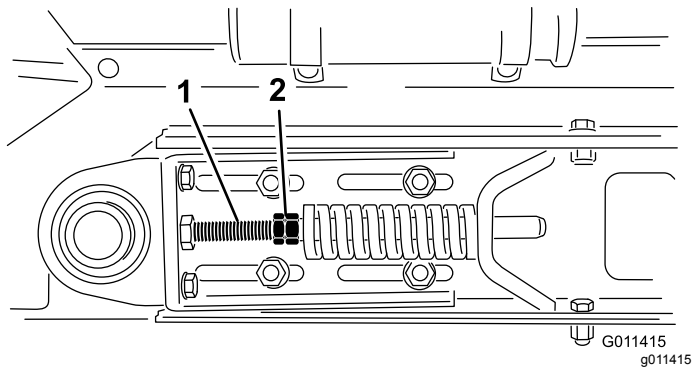

Figure 31
- 3. Loosen the jam nuts and the nuts on the tension rod to release the spring tension (Figure 31).